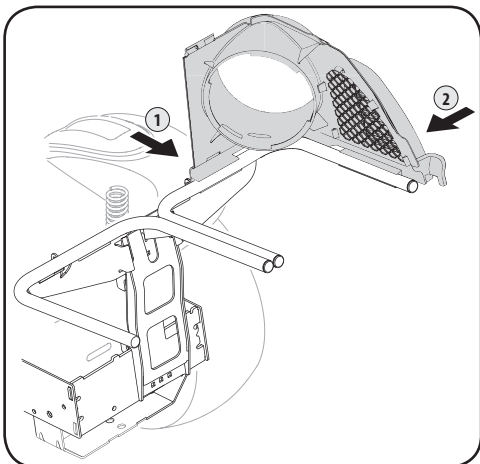

Figure 4-9
- Tilt the front of the upper chute support slightly forward and snap the front side latch to the rail, as shown in (1) of Figure 4-9. Slide clip behind tab.
- Snap the upper chute support in place by first clipping the side portion onto the bagger support rail with the edge of the snap feature aligned with the red line, see (2) in Figure 4-9.